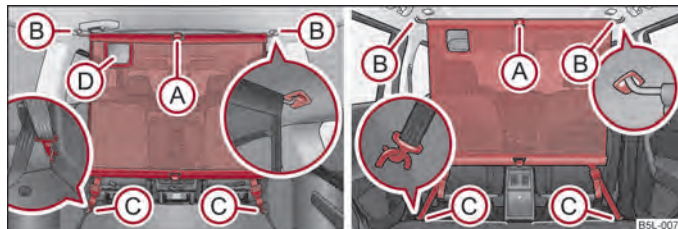

Fig. 62 Use of the static separation net behind the rear seats/behind the front seats
- Insert the cross rod into the mount ② ⇒ fig. 62 first on the one side and push the cross rod forward. In the same way, fix the cross rod to the other side of the vehicle, mount ②.
- Hang the carabiners ③ at the ends of the strap into the fixing eyes behind the rear or front seats.
- Slacken the bands on both sides and take off the carabines (C) ⇒ fig. 62.
- Take the cross rod out of the mounts (B).
The opening (D) ⇒ fig. 62 in the separation net is designed to feed through the three-point seat belt ⇒ page 135.